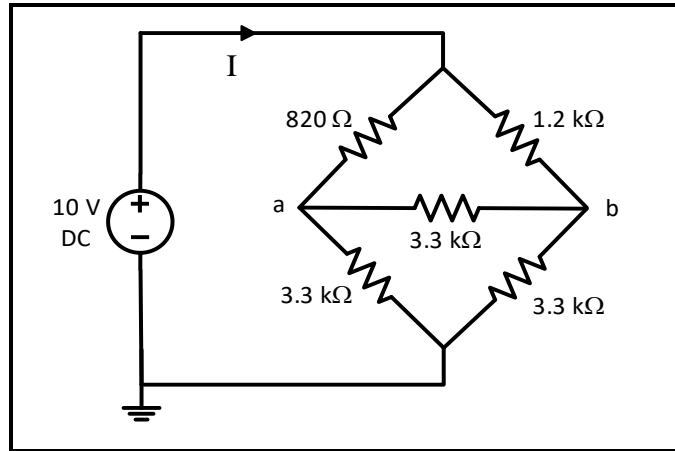

Figure 4.8
1. For the circuit of Figure 4.8 calculate the equivalent Y for the Δ formed by the three 3.3k Ω resistors, draw the resulting circuit.
2. Simulate the circuit of Figure 4.8 using PSPICE, find the value of the current I, and calculate voltage V_{ab} from simulation results.
1. Connect the circuit of Figure 4.8.